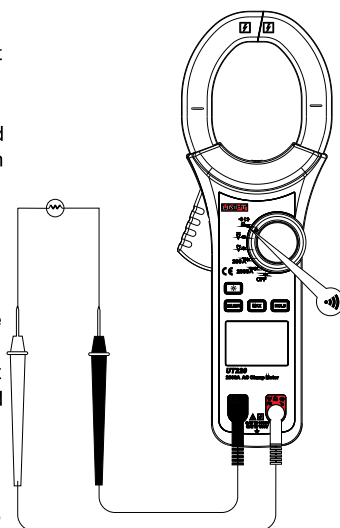

Figure 7
5. Conduction detection $\cdot \cdot \cdot$ (See Figure 7)